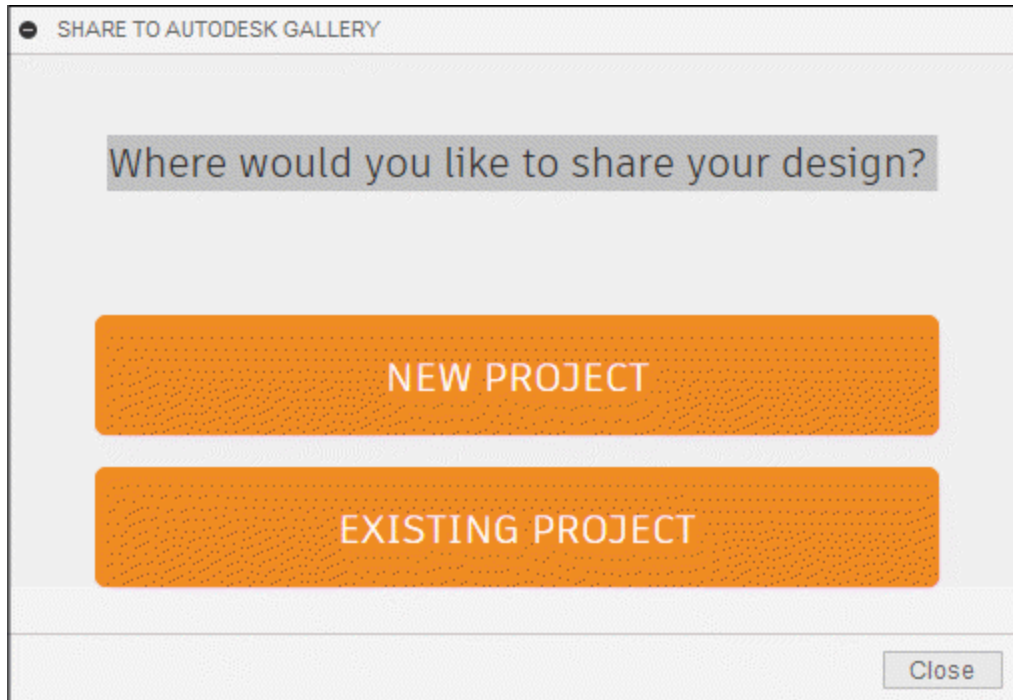

Figure-73. SHARE TO AUTODESK GALLERY dialog box
- Click on **Autodesk Gallery** tool from **Share** cascading menu. The **SHARE TO AUTODESK GALLERY** dialog box will be displayed; refer to Figure-73.